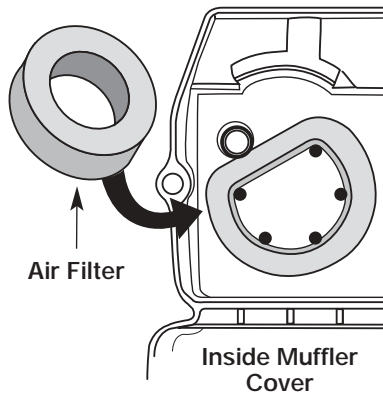

Figure 22
2. Turn cover over and look inside to locate the air filter. Remove the air filter from inside the air filter/muffler cover. See Figure 22.